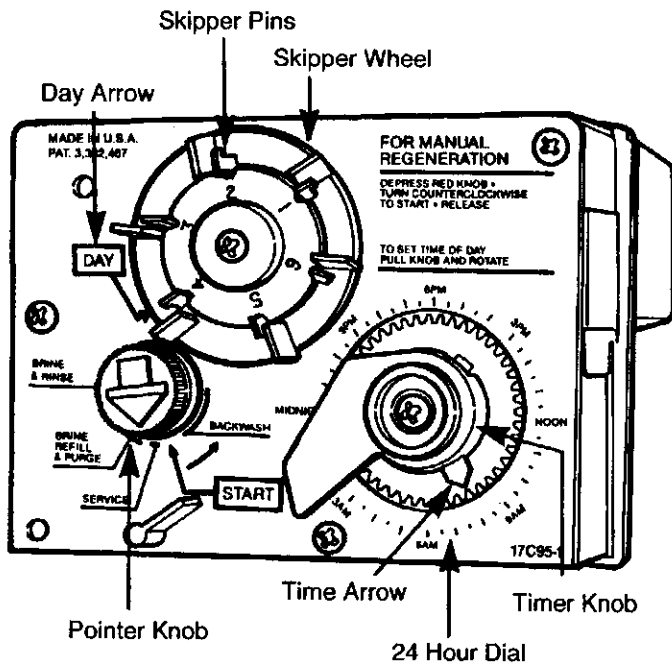

Figure 8
Note: The following steps will require your turning the red pointer knob, (Figure 8), to various positions. Insert a wide blade screwdriver into arrow slot in pointer knob and press in firmly. With knob held in, rotate **COUNTERCLOCKWISE** only until arrow or knob points to desired position. (Rotation is made much easier if you grasp the camshaft with your free hand and turn it at the same time.) Then permit knob to spring back out.
2. Insert screwdriver into slot in pointer knob, (Figure 8). Press in and rotate knob **COUNTERCLOCKWISE** until arrow points directly to the word **BACKWASH**.
1. Set days of regeneration on skipper wheel (Figure 8).